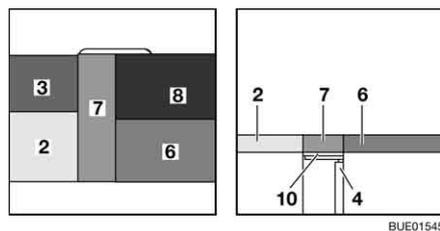

Fig. 141 After conversion
- Place the back cushion (Fig. 141,8) on the table in front of the seat cushion (Fig. 141,6).
- Place the back cushion (Fig. 141,3) on the vario seat extension in front of the seat cushion (Fig. 141,2).